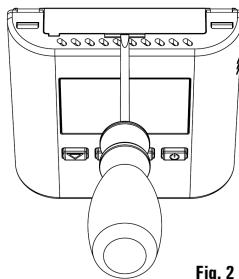

Fig. 2
- Extract the battery holder drawer: insert the flat-blade of a screwdriver tip in the hole and pull up the drawer as shown in figures 2 and 3.